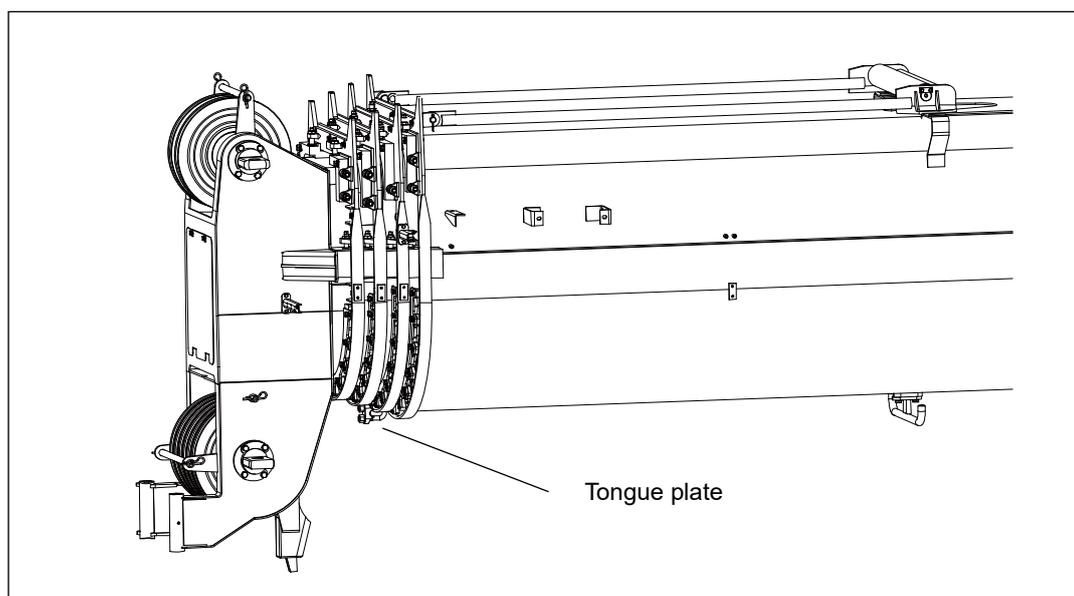

Figure 5-2 Tongue plate position
- a) Adjust the tongue plate at left side of the boom head, and make it maintain a clearance of 1-2mm with the bearing block. Refer to Figure 5-2.